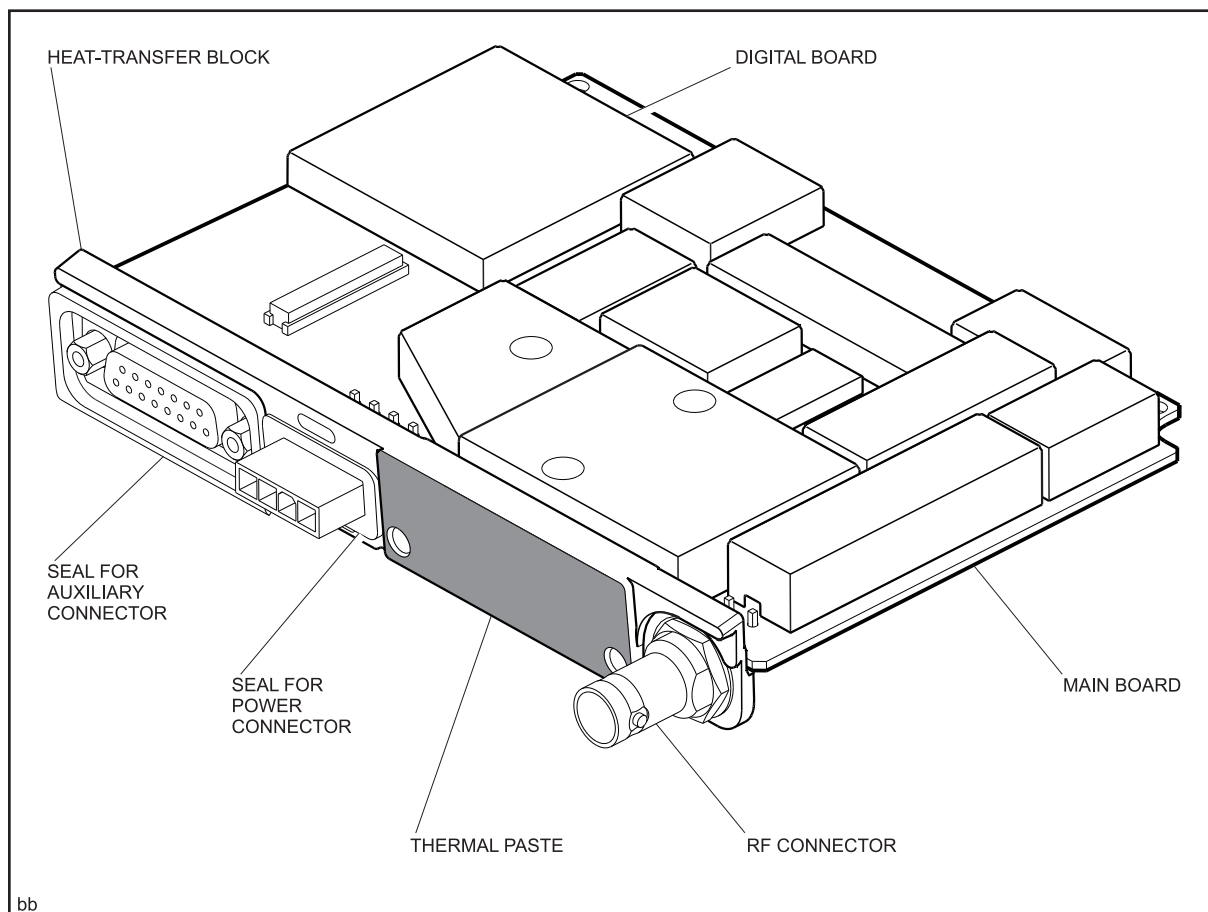

Figure 3.9 The main-board assembly
5. The main-board assembly is now free of the chassis. Note the slot in the heat-transfer block shown in Figure 3.7. Insert the blade of a small (about 3 to 5 mm) flat-bladed screwdriver in the slot. Tilt the screwdriver to lever up the front edge of the circuit board. Grip the edge of the board and pull out the assembly, but avoid the thermal paste on the heat-transfer block. The area coated with thermal paste is shown in Figure 3.9.
1. Thermal paste is required on the area of the heat-transfer block shown in Figure 3.9. This area constitutes the contact area between the main-board assembly and the chassis.